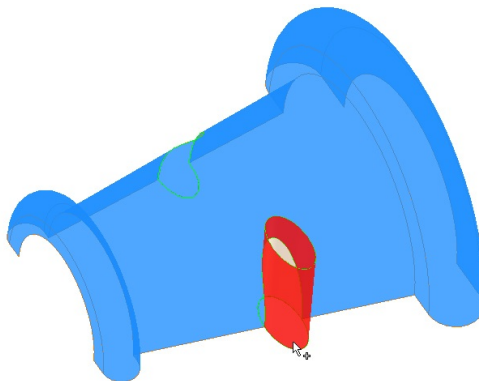

Figure 14-58 *Trimming the other extruded surface*
- e. Delete faces using the **Delete Face** tool, refer to Figure 14-58.
5. Trim the other extruded elliptical surface using the base surface as the trim tool. Note that you need to select the outer portion of the extruded surface to trim, as shown in Figure 14-58.